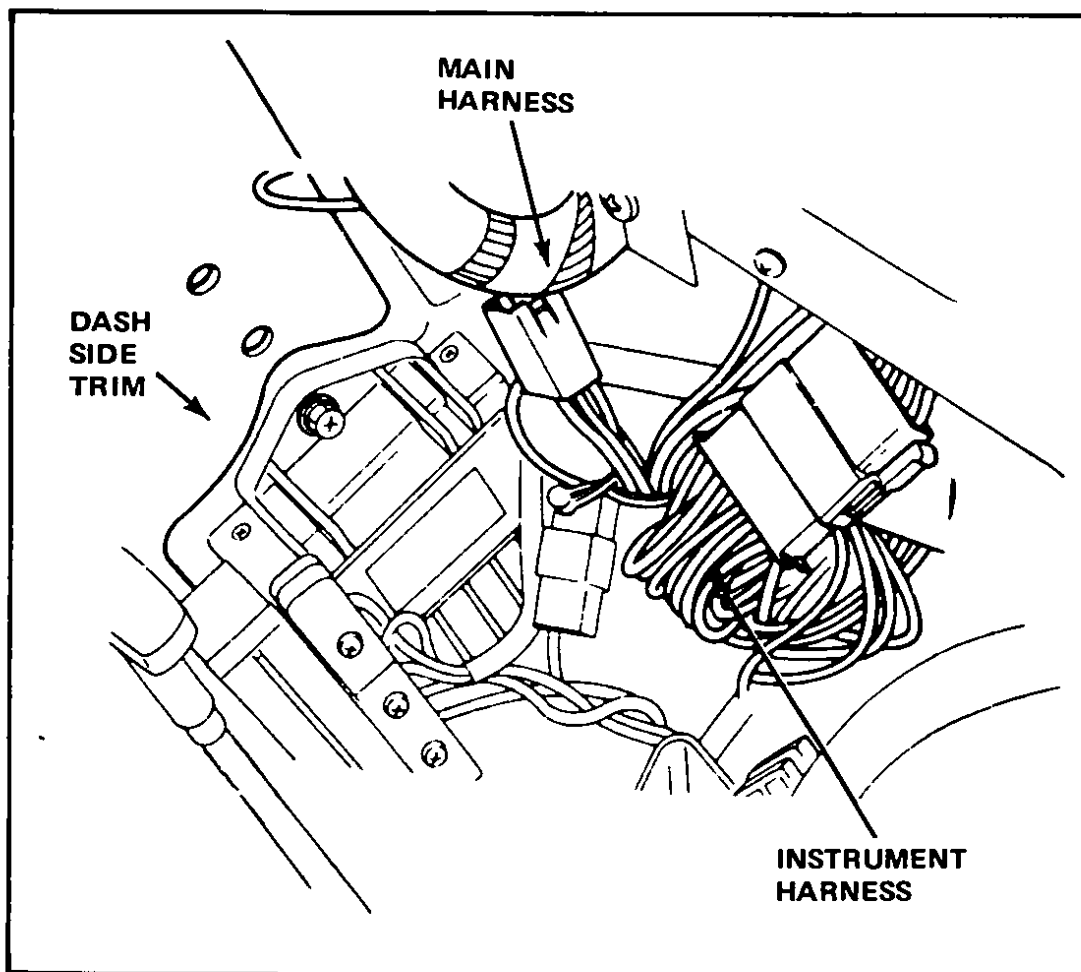

Fig 74 Instrument harness connector – Model 610
- 5 Disconnect the body and instrument harnesses at connector, Fig 74